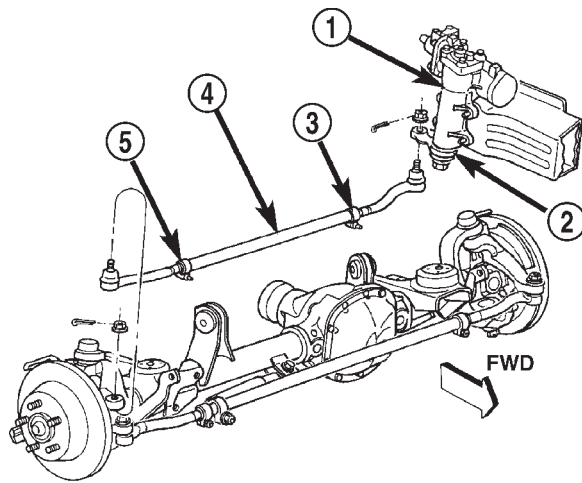

Fig. 4 Drag Link Assembly
- (1) Raise and support the vehicle.
- (2) Remove right wheel and tire assembly.
- (3) Remove the cotter pins and nuts at the right steering knuckle and pitman arm (Fig. 4).
- (4) Remove the drag link from the steering knuckle and pitman arm Puller C-3894-A.
- (5) Loosen adjustment sleeve clamp bolts and unscrew the tie rod ends from the adjustment sleeve.